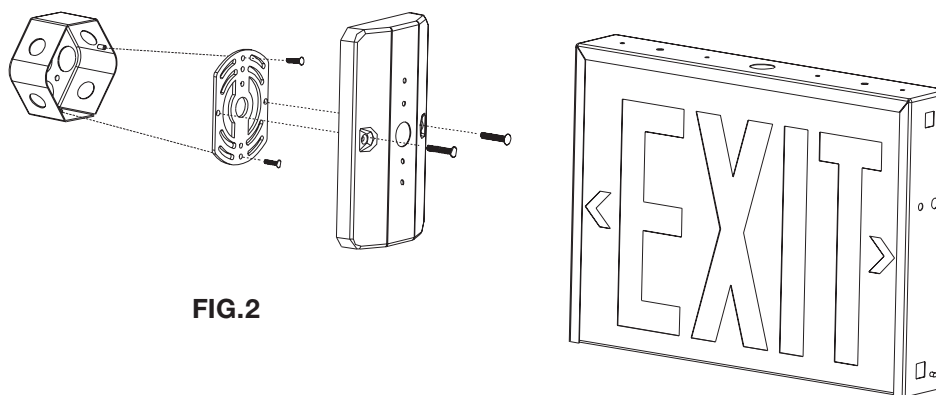

FIG.2
4. Determine if ROUND ADAPTER PLATE will be needed for proper orientation of the exit sign. If it is needed, install it now with the remaining (2) 1/2" lng 8-32 screws (as shown in Fig. 2).
5. Mount sign to the J-Box using the (2) 1-1/2" long 8-32 screws (Figure 2), making sure to route the AC SUPPLY wires into the fixture. Use the included 20" jumper wires if needed for this step.